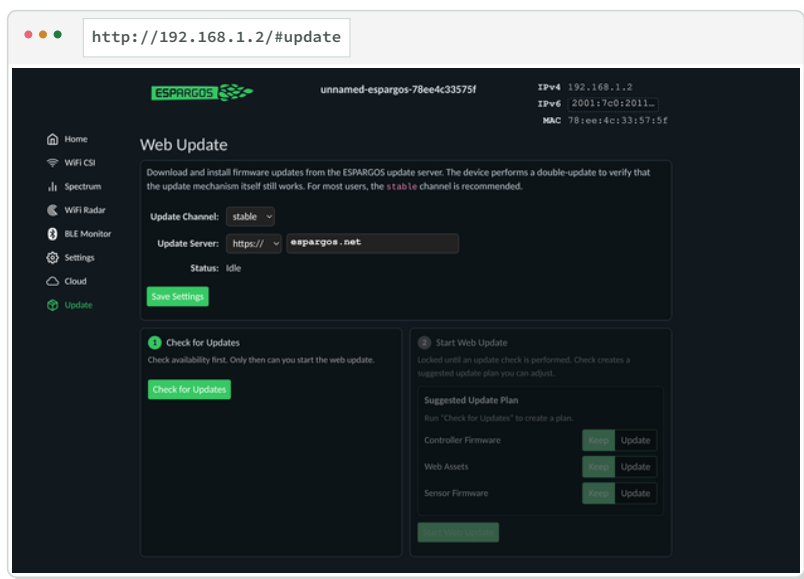

Figure 10. Automated web-update page with the proposed update plan.
3. Click **Check for Updates**. The device contacts the server and proposes an update plan (Figure 10). This can take a few seconds.